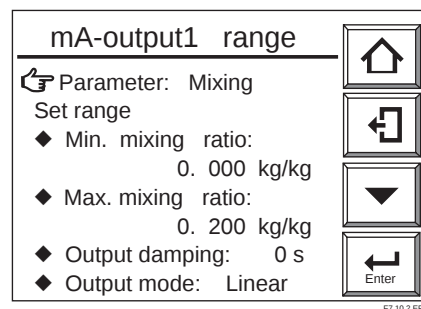

Figure 7.10.2 Mixing Ratio Display
- (5) The “Mixing” in Figure 7.10.2 appears.
- (6) Perform the same setting in mA-outpout2 if necessary.